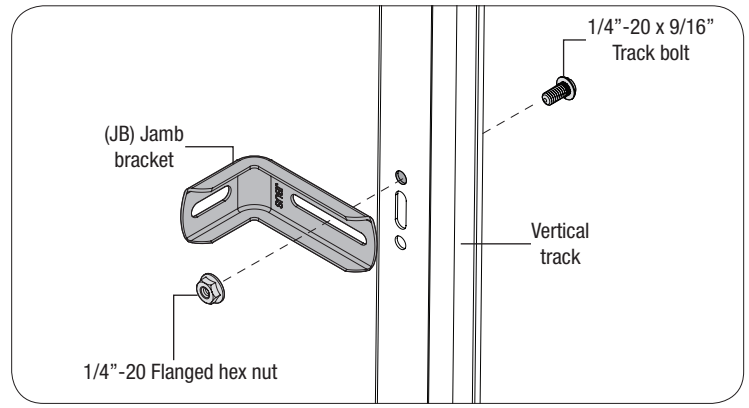
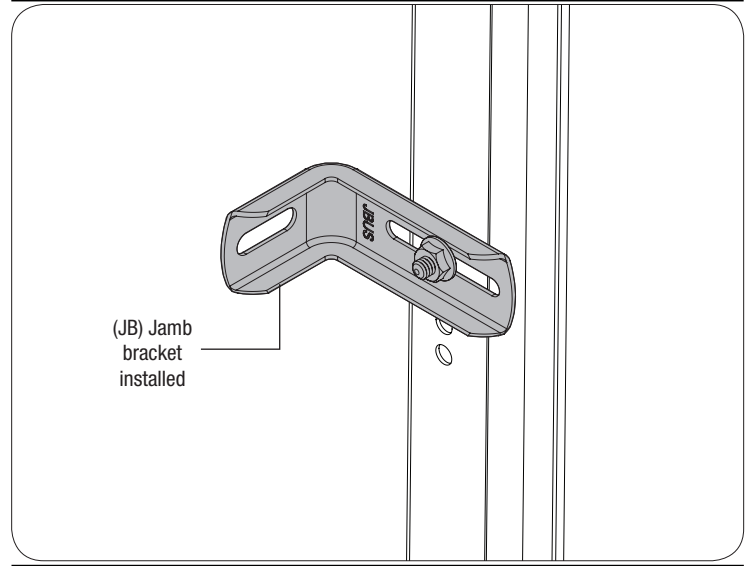

FIG. 2.1
FIG. 2.2
Loosely fasten the (JB) jamb bracket to the track with a 1/4"-20 x 9/16" track bolt and 1/4"-20 flange hex nut, as shown in **FIG. 2.1** and **FIG. 2.2**.